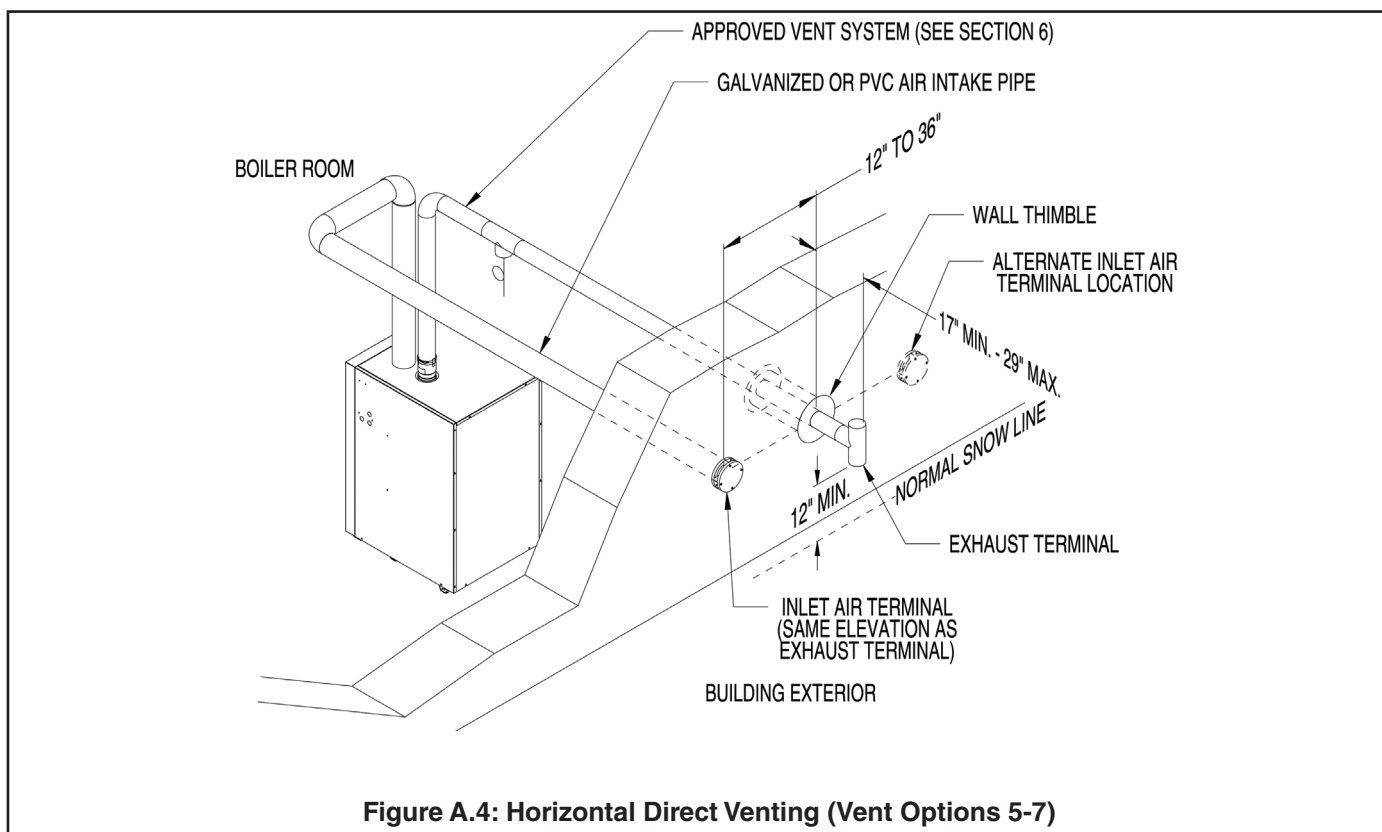

Figure A.4: Horizontal Direct Venting (Vent Options 5-7)
4. Horizontal terminal location – Install the intake terminal to either side of the exhaust terminal as shown in Figure A.4. The intake terminal must be on the same wall as the exhaust terminal. Maintain at least 12" from the intake terminal to the exhaust terminal as shown. Also note that when this kit is used, the exhaust terminal must be at least 1 foot from any door, window, or gravity inlet into the building. This is less than the 4ft clearance shown in the boiler installation manual for boilers using indoor combustion air.